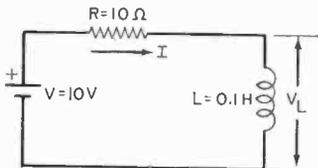

Fig. 5
*Ex. 3.* Referring to Fig. 5, determine the current  $I$  at (a)  $t = 0$  and (b)  $t = \infty$ . (c) What is the time constant for the circuit? *Sol.* (a)  $I(0) = 0$ . (b)  $I(\infty) = V/R = 10/10 = 1$  A. (c)  $T = L/R = 0.1/10 = 0.01$  s = 10 ms.
*Ex. 4.* For the circuit in Fig. 5, find the voltage across the inductor, at (a)  $t = 0$  and (b)  $t = \infty$ . *Sol.* (a) Because the inductor acts like an open circuit at  $t = 0$ ,  $V_L(0) = 10$  V. (b) Because the inductor acts like a short circuit in steady state,  $V_L(\infty) = 0$ .
**D. Functions of Time.** For times between  $t = 0$  and  $t = \infty$ , the current and voltage as functions of time for the circuit in Fig. 5 may be expressed by:  $i(t) = (V/R)(1 - \epsilon^{-tR/L})$  and  $v_L(t) = V \epsilon^{-tR/L}$ .